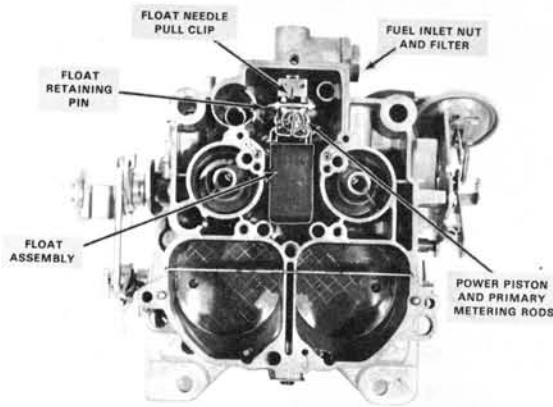

FIGURE 32
A. DIAPHRAGM TYPE – (Figure 32)